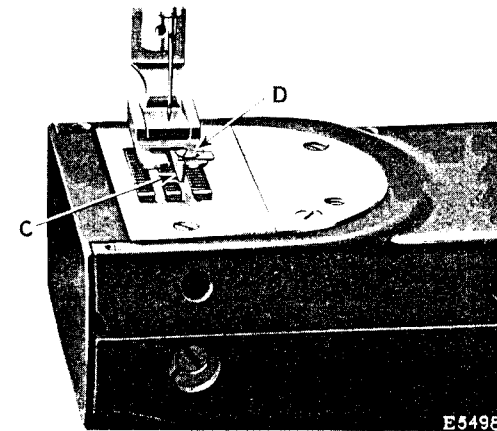

Fig. 18. Adjustment of Presser Foot of Machine 107w51
When making the sideway stitch to the **right**, the right side of the guide (C, Fig. 18) is used. To adjust the presser foot for the sideway stitch to the **right**, loosen the screw (D, Fig. 18) and move the guide (C) to the left as far as may be required to make the stitching margin the desired width, then securely tighten the screw (D).